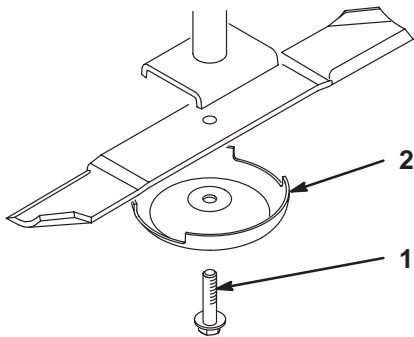

Figure 87
2. Grasp the end of the blade using a rag or thickly padded glove. Remove the blade bolt, anti-scalp cup, and blade from the spindle shaft (Fig. 87).